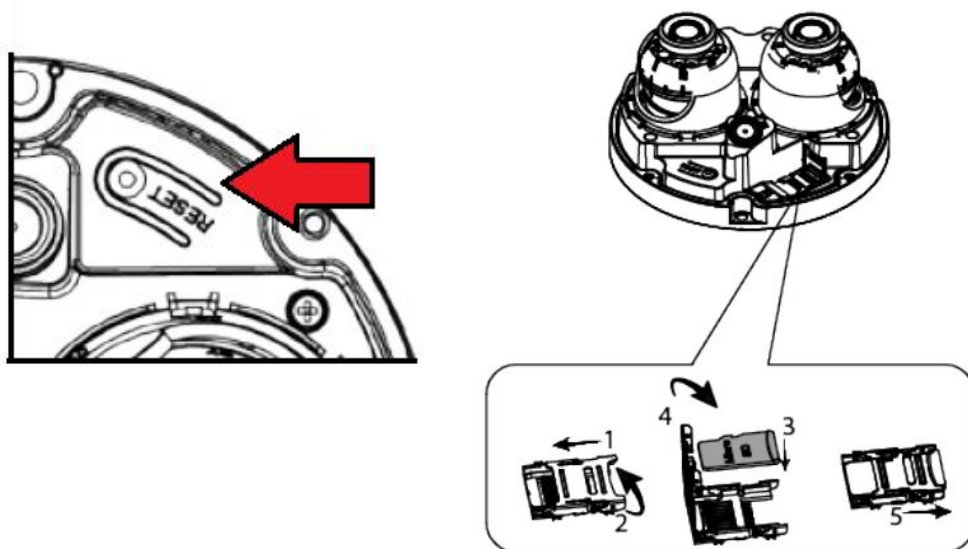

Figure 2-6
**Step 2** Press the RESET button for 15-30 seconds to complete the reset function. See Figure 2-6. The camera will reboot when the reset process is complete.
**Step 3 (If installing SD Card)** Adjust the Micro SD Card to a proper direction shown in Figure 2-6.